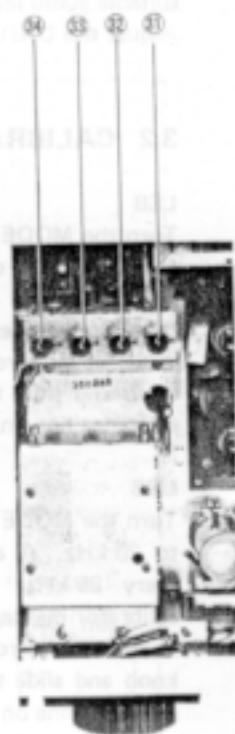

Fig. 7
**2.3 INTERNAL CONTROLS****DELAY (31 on Fig. 7)**
**ANTI-VOX (32 on Fig. 7)**
**VOX SENSITIVITY (33 on Fig. 7)**
**MICROPHONE GAIN (34 on Fig. 7)**